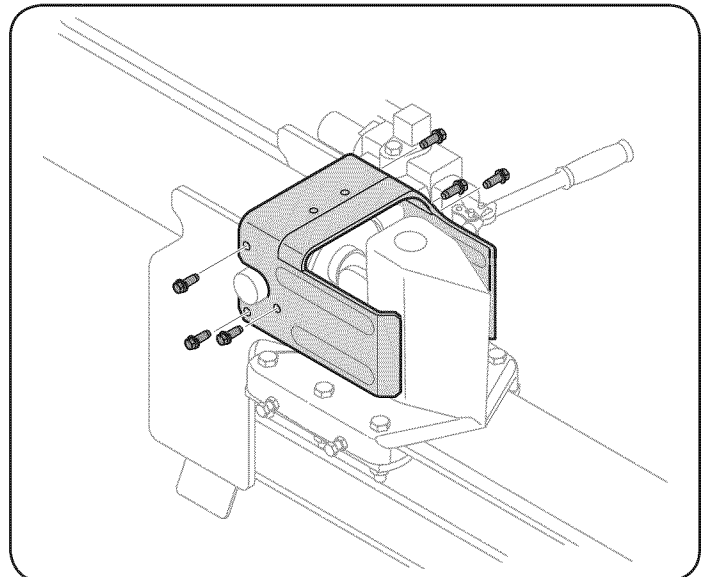

Figure 6
18. Lift and slide the cylinder up to the top of beam and into the weld brackets. See Figure 6.